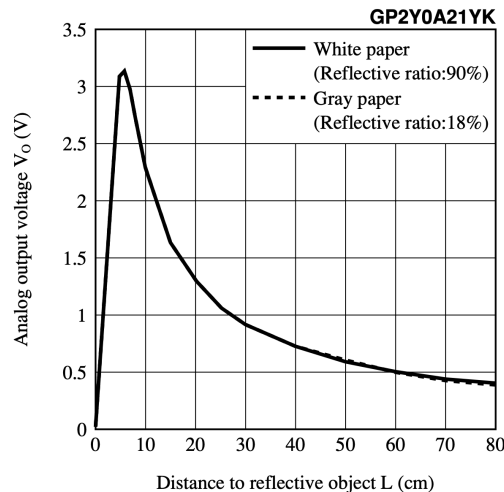

Figure 3: GP2Y0A21YK0F distance vs output voltage. (Image courtesy of Pololu).
The relationship between the sensor's output voltage and the inverse of the measured distance is approximately linear over the sensor's usable range. A graph of the analog output voltage as a function of the distance to a reflective object is shown in Figure 3. You can use this plot to convert the sensor output voltage to an approximate distance by constructing a best-fit line that relates the inverse of the output voltage (V) to distance (cm). To that end, we propose a conversion method in the following.